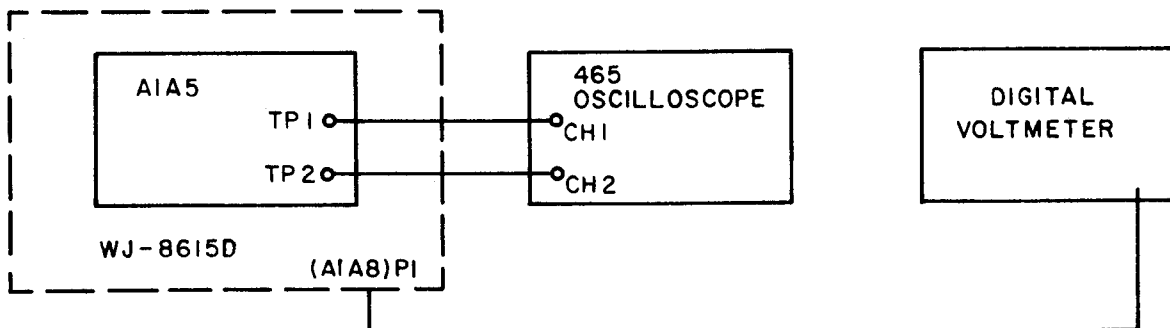

Figure 4-34. Variable BFO Alignment, Equipment Connections
- 21) Connect the test equipment as illustrated in **Figure 4-34**.